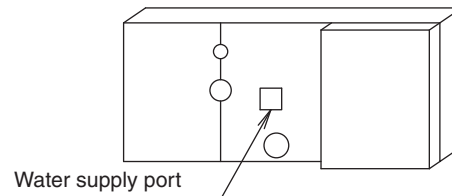

Fig. 13
- Open the water supply port, add approximately 61in³. of water slowly into the drain pan and check drainage flow. (Refer to Fig. 13)